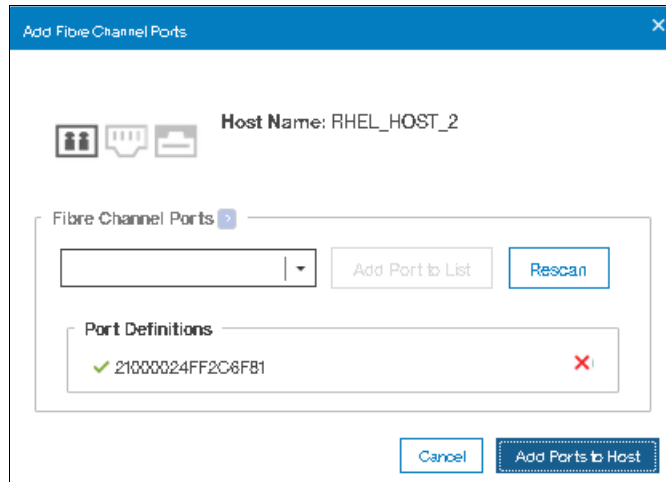

Figure 8-34 Port Definitions
5. The selected port will be shown under **Port Definitions** as shown in Figure 8-34 on page 370.